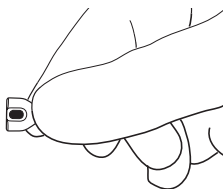

Figure 6. Grasping the tapered portion.
- With a thumb and forefinger, grasp the tapered portion of the sutureless pump connector (Figure 6).